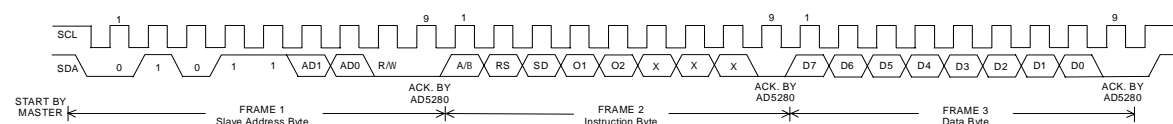
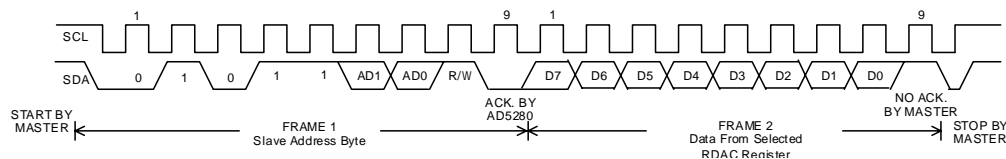

Figure 2. Writing to the RDAC Register
Figure 3. Reading Data from a Previously Selected RDAC Register
Referring from Figures 2 and 3, the first byte of AD5280/AD5282 is a Slave Address Byte. It has a 7-bit slave address and a R/\bar{W} bit. The 5 MSBs are 01011 and the following
1. The master initiates data transfer by establishing a START condition, which is when a high-to-low transition on the SDA line occurs while SCL is high, Figure 2. The following byte is the Slave Address Byte which consists of the 7-bit slave address followed by an R/\bar{W} bit (this bit determines whether data will be read from or written to the slave device).
2. A Write operation contains an extra Instruction Byte more than the Read operation. Such Instruction Byte in Write mode follows the Slave Address Byte. The MSB of the Instruction Byte labeled A/B is the RDAC sub-address select. A “low” select RDAC1 and a “high” selects RDAC2 for dual channel AD5282. The 2nd MSB RS is the Mid-scale reset. A logic high of this bit moves the wiper of a selected RDAC to the center tap where $R_{WA}=R_{WB}$. The 3rd MSB SD is a shutdown bit. A logic high causes the RDAC open circuit at terminal A while shorting wiper to terminal B. This operation yields almost a zero Ohm in rheostat mode or zero volt in potentiometer mode. This SD bit serves the same function as the \overline{SHDN} pin except it reacts in active low. The following two bits are O2 and O1. They are extra programmable logic output that users can make use of them by driving other digital loads, logic gates, LED drivers, and analog switches, etc. The 3 LSBs are DON'T CARE. See Figure 2.
condition, Figure 2. In Read mode, the master will issue a No Acknowledge for the 9th clock pulse (i.e., the SDA line remains high). The master will then bring the SDA line low before the 10th clock pulse which goes high to establish a STOP condition, Figure 3.